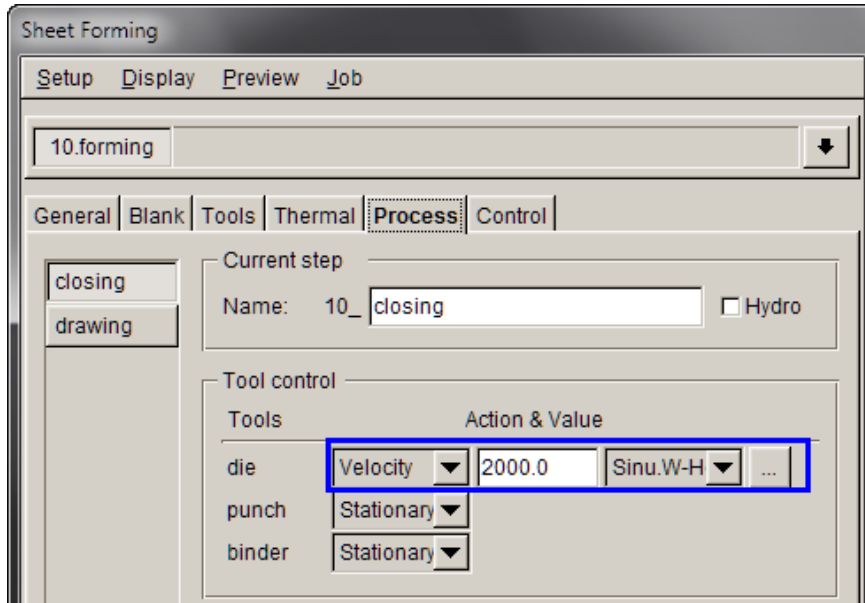

Figure 48
1. Click **Process** in Figure 48.
2. Select velocity curve as **Sinu.W-H**. And Keep **Closing** step default (Figure 48).